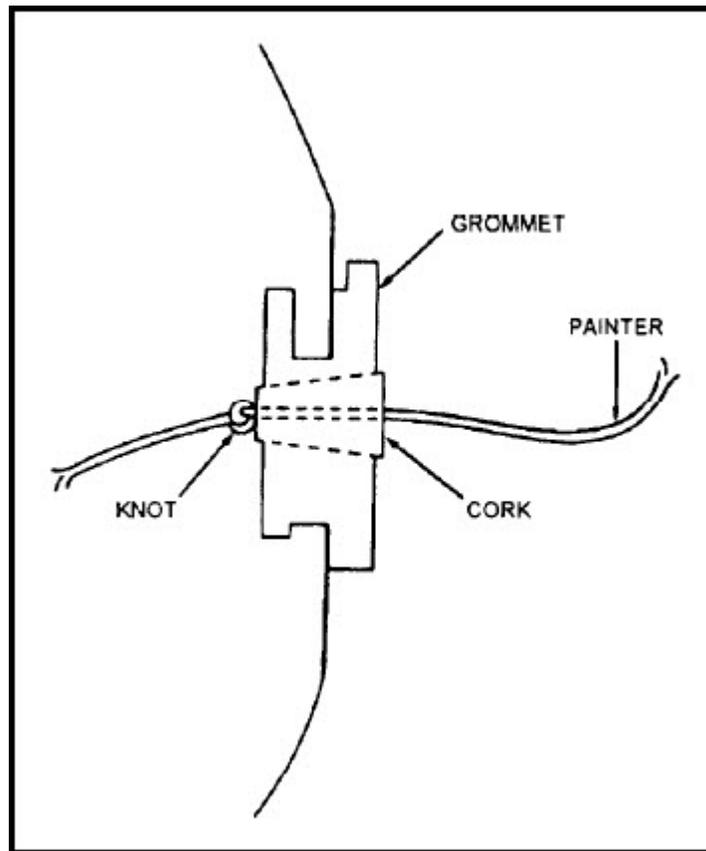

Figure 5-11 Container grommet (Mk 5 Mod 2 and Mk 6)
3. Tie an overhand knot in the painter line at the point determined above and immediately on the inside of the container next to the cork. (See fig. 5-11.)